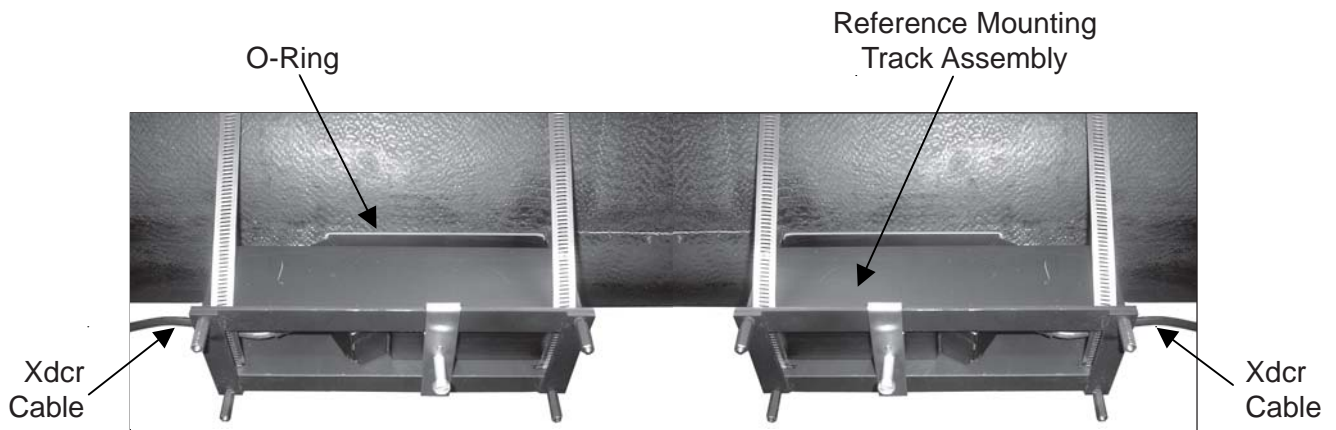

Figure 8
- Seat O-Ring gasket to the pipe by pushing it off the corners of the transducer (Figure 8).